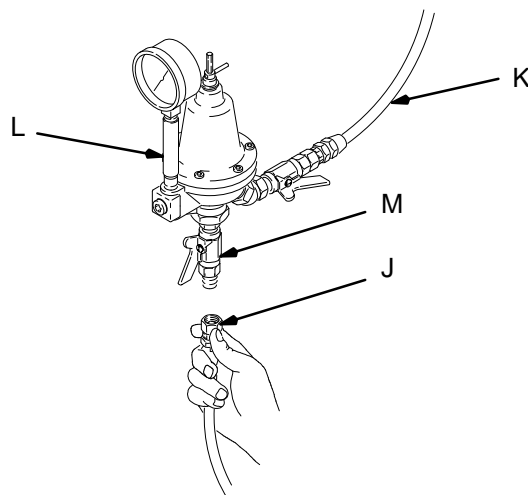

Fig. 4 _____ 02054
- Install a fluid regulator (L) on the fluid line to control fluid pressure to the gun. See Fig. 4.
- A. Connect the fluid hose (J) to the gun fluid inlet (B) 3/8–18 npsm [R 3/8–19] compound thread.
- B. Connect the other end of the fluid hose (J) to a regulated fluid supply line (K).
NOTE: Fig. 4 shows the fluid regulator (L) and fluid shut-off valve (M) on the fluid supply line (K).